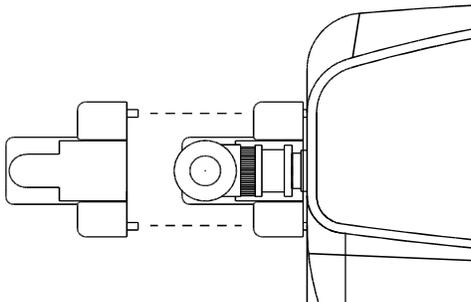

Figure 1
2. Connect the antenna to the base unit using the BNC twist lock connector on the end of the antenna. Insert and twist clockwise to lock in place on the left side of the NC371A. Slide the plastic cover over the connector, engaging the two lugs into the corresponding recesses on the side of the case. (See Figure 1.)